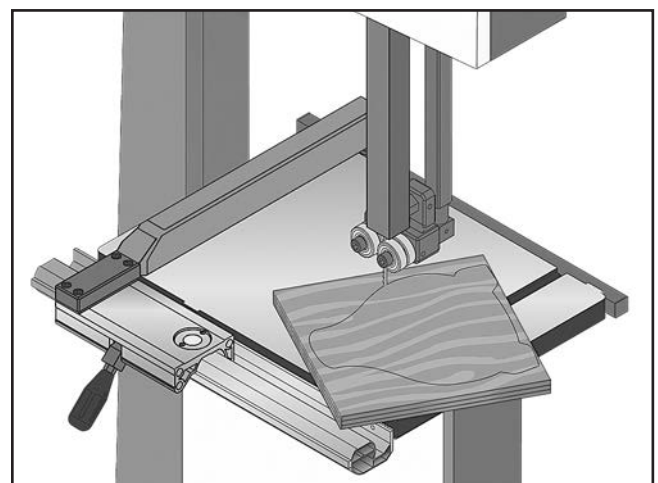

Figure 61. Typical stacked cut.
5. Cut the stack of pieces as though you were cutting a single piece. Follow your layout line with the blade kerf on the waste side of your line, as shown in **Figure 61**.